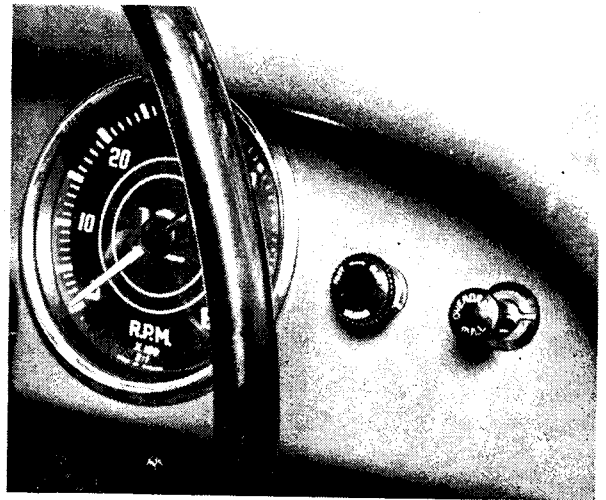

Fig. 39 Showing the position of the Overdrive Control.
**R.H. Drive Cars.** Two holes are pierced in the facia panel on the R.H. side of the speedometer and covered with fabric. The fabric should be pierced through the extreme R.H. hole and the operating switch fitted (see Fig. 39). The remaining hole is used for a heater switch when fitted.